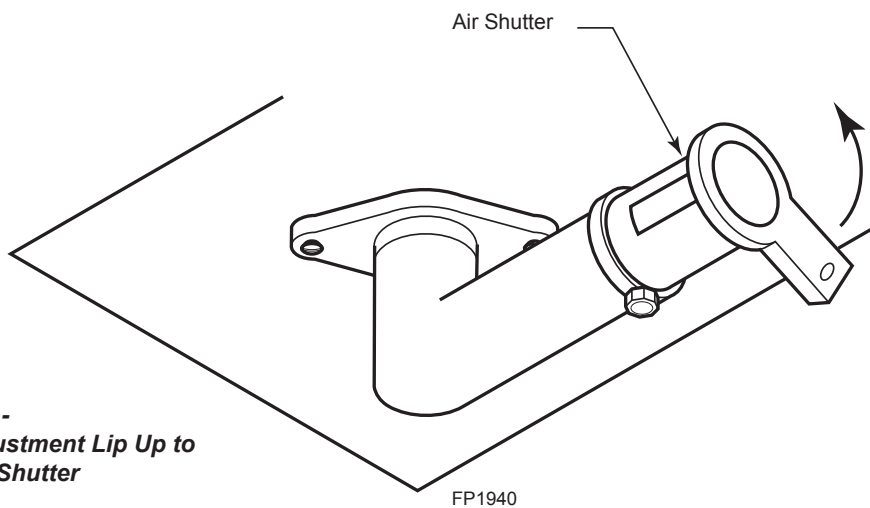

Figure 30 - Push Adjustment Lip Up to Open Air Shutter
2. Remove log support bracket by removing two (2) screws in rear and one (1) screw on each side wall.
3. Remove four (4) screws holding burner in place and slide burner to the left and up and out of unit, allowing access to venturi air shutter.
- To increase air mixture, open the shutter more. This will reduce soot formation. *Figure 30*